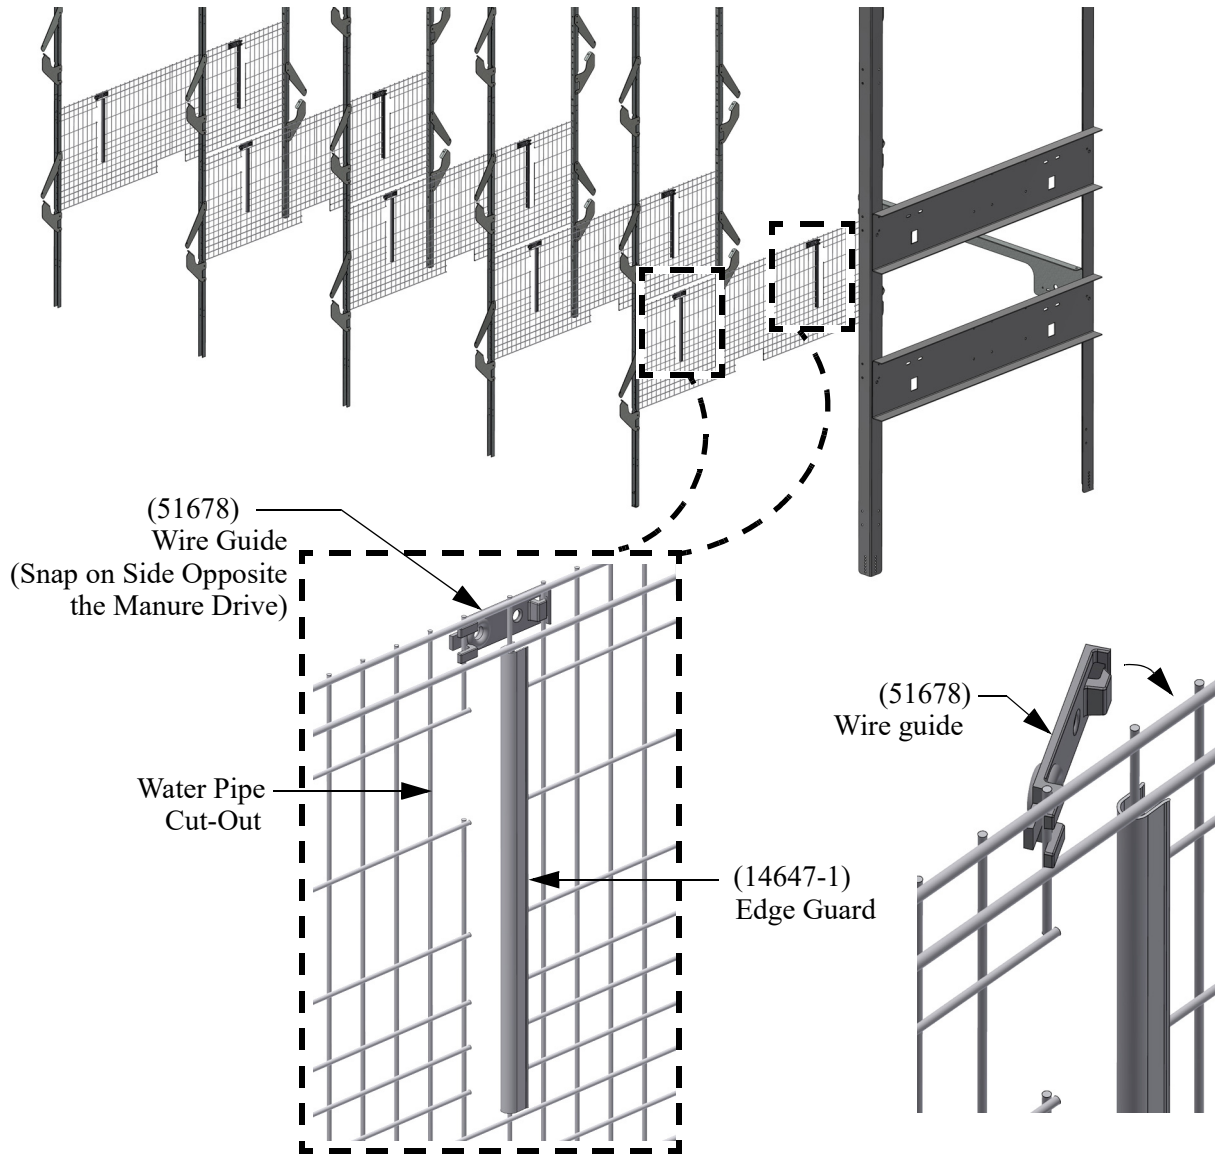

Figure 9.Edge Guard /Wire Guides Installation
1. Install edge guard (14647-1) at the Water Pipe openings at each partition only on one side (the side opposite the Water Pipe Cut-out) as shown (See Figure 9).
2. Install Wire Guides (51678) on each partition as shown. Make sure the Wire Guides are installed on the side of the partition opposite the Manure Drive. The big hole is centered over the slot as shown. (See Figure 9). Make sure the Edge Guards are pushed on all the way.